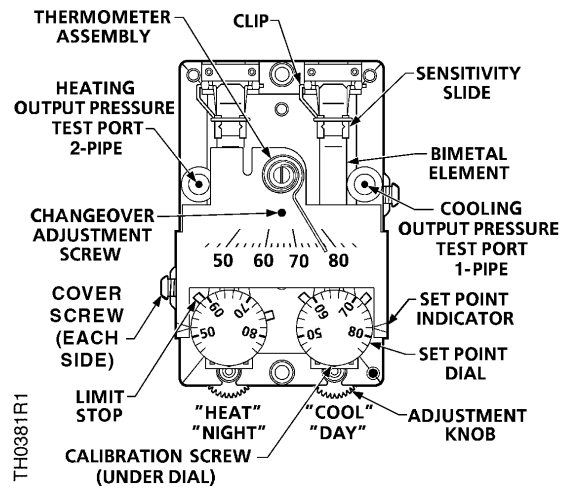

Figure 7. TH 193 HC FEB Thermostat Details.
2. Place a screwdriver in the center of the thermometer assembly (Figure 7). Carefully rotate thermometer assembly until pointer tip indicates the correct room temperature.